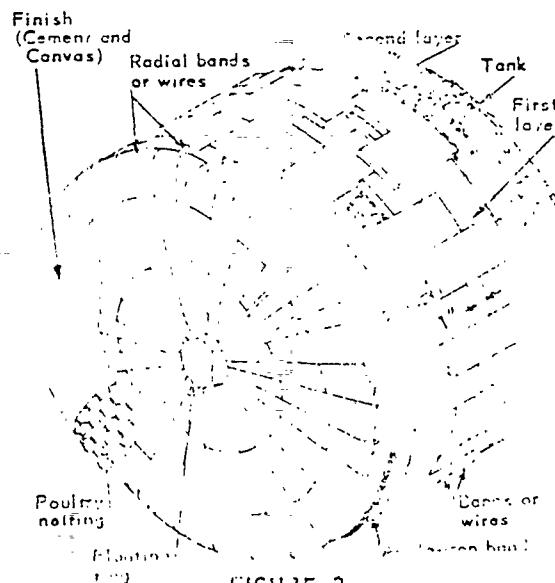

FIGURE 2
3.3 The insulation on heads or ends of cylindrical equipment shall be secured by tight bands, that are not over 4 inches apart and fastened to clips, angle iron bands or steel bands and circling the tank behind the rivet heads or circumferential head weld. See Figure 2. The insulation on the head of